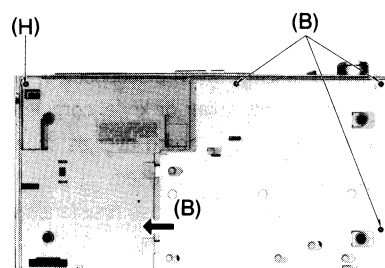

Fig. 2
1. Using a pointed screwdriver or knife, completely scrape the printed resistor as illustrated in Fig. 2, and remove its shavings.
A Head position adjustment Condition: • Playback and pause mode	(The head adjusting plate is provided to adjust the tape touch of the head in cue or review mode.) 1. Press the playback button and pause button 2. Measure the space between the pressure roller and the capstan. Standard value: $0.5 \pm 0.3\text{mm}$ 3. If the measured value is not within the standard value, untighten screw (A), and slide the head adjusting plate in the direction of arrow (B) for adjustment.  Fig. 2